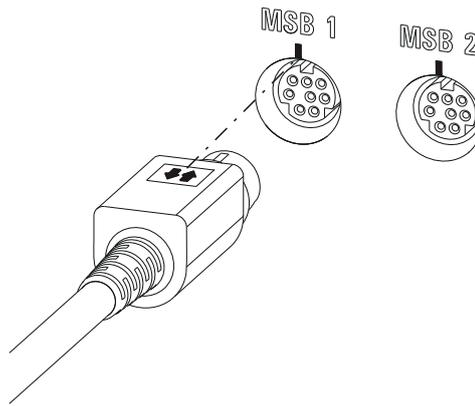

Figure 6 MSB connector
- When making the connection, take care to ensure that the flat part of the MSB plug marked with arrows is pointing in the direction of the marking on the MSB connector (see Figure 6, page 14).